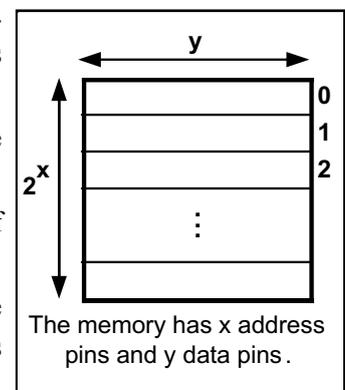

Figure 0-9. $2^x \times y$
3. The entire chip will contain $2^x \times y$ bits, where x is the number of address pins and y is the number of data pins on the chip. See Figure 0-9.